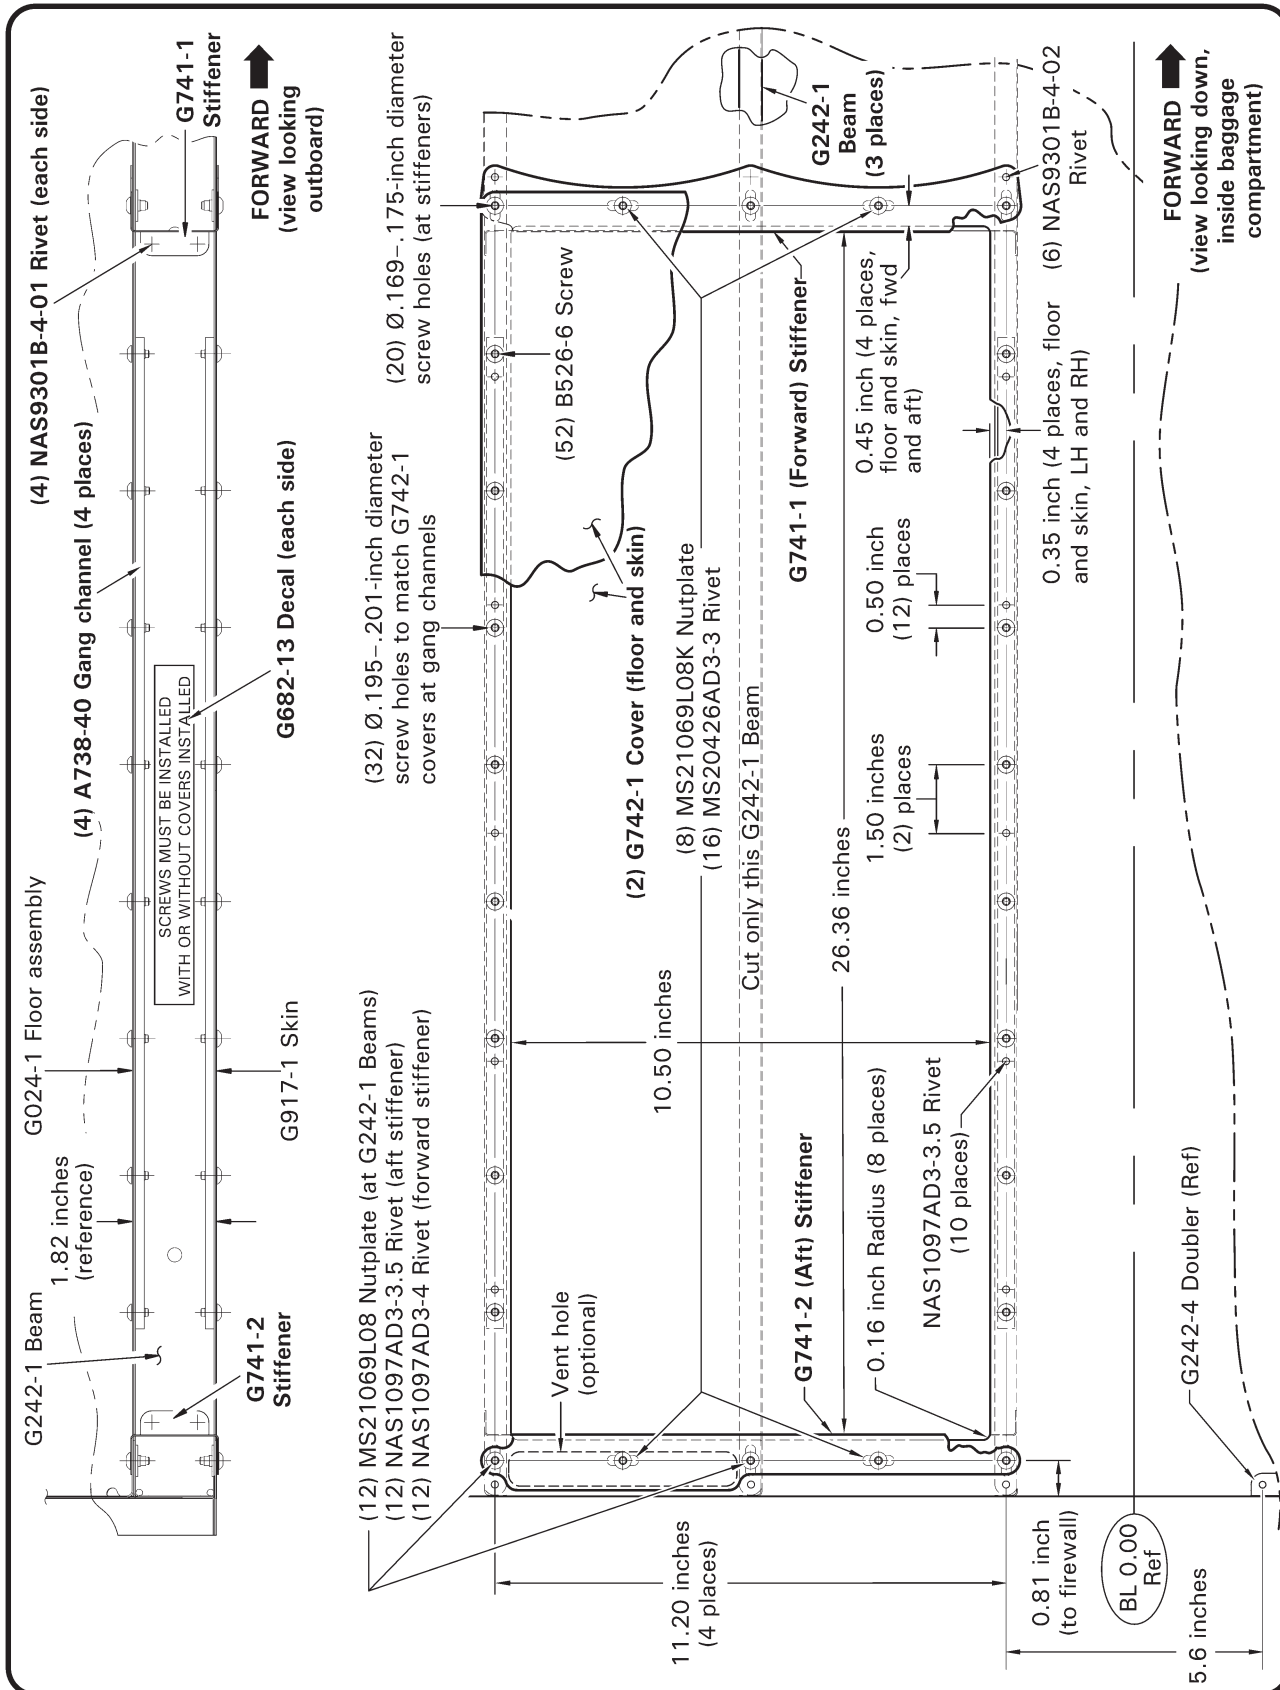

FIGURE 1
3. Refer to Figure 1. Lay out hole dimensions on floor. Using a pneumatic or electric cutting tool, cut hole in floor, (one) G242-1 beam, and G917-1 skin, approximately 0.25 inch undersize of layout markings.
7. Refer to Figure 1. Use G742-1 cover as an aid to position G741-1 forward stiffener. Using G741-1 forward stiffener as template, match drill (10) 0.127–0.133 inch diameter rivet holes through beams and (10) 0.169–0.175 inch diameter screw holes through floor, skin, and beams. Remove stiffener; clean up debris.
8. Refer to Figure 1. Use G742-1 cover as an aid to position G741-2 aft stiffener. Using G741-2 aft stiffener as template, match drill (4) 0.127–0.133 inch diameter rivet holes through beams and (10) 0.169–0.175 inch diameter screw holes through floor, skin, and beams. Remove stiffener; clean up debris.
9. Using MS21069L08 nutplates as template, match drill (24) 0.097–0.102 inch diameter rivet holes through floor and skin at beam screw holes. Create 0.180–0.200 inch diameter, 100° countersinks. Clean up debris and install (12) MS21069L08 nutplates using NAS1097AD3-3.5 rivets at aft holes and NAS1097AD3-4 rivets at forward holes.
10. Using MS21069L08K nutplates as template, match drill (16) 0.097–0.102 inch diameter rivet holes through floor and skin at screw holes. Deburr holes, clean up debris, dimple holes using punch and die provided, and install (8) MS21069L08K nutplates using MS20426AD3-3 rivets.
12. Refer to Figures 1 & 3. Install G742-1 covers on floor and skin using (20) B526-6 screws in stiffeners holes. Using covers as template, center drill (32) 0.195–0.201 inch diameter screw holes through floor and skin along beams. Remove covers. Lay out (10) 0.097–0.102 inch diameter rivet holes in floor along beams, (9) 0.097–0.102 inch diameter rivet holes in belly skin at inboard beam, and (9) 0.127–0.133 inch diameter rivet holes in belly skin at outboard beam. Drill and deburr holes; clean up debris.
13. Ink mark centerline on mating surface of A738-40 gang channels and install using B526-6 screws. Match drill (19) 0.097–0.102 inch diameter rivet holes and (9) 0.127–0.133 inch diameter rivet holes through gang channels. Create 0.180–0.200 inch diameter, 100° countersinks. Remove gang channels, deburr holes, and clean up debris. Install gang channels using NAS1097AD3-3.5 and MS20426AD4-4.5 rivets.